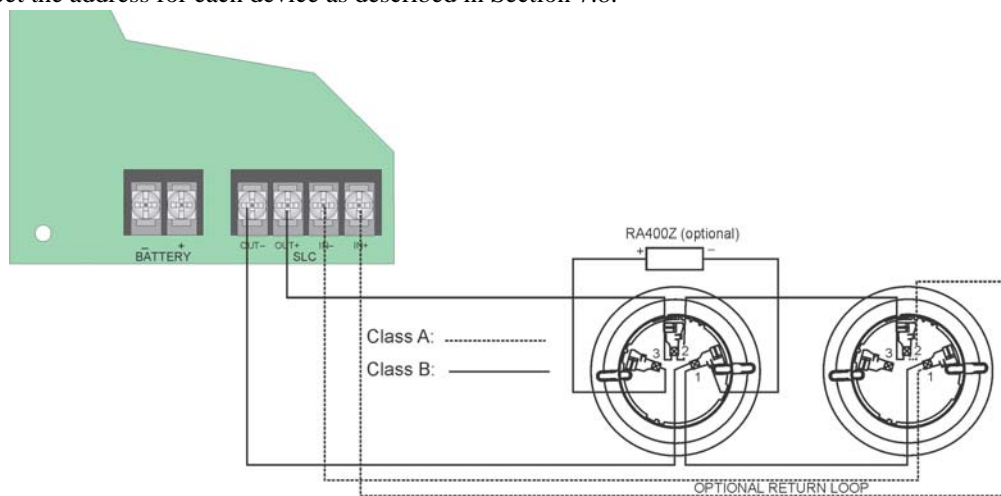

Figure 7-5 Heat and Smoke Detector Connection to the Panel.
1. Wire device bases as shown in Figure 7-5.